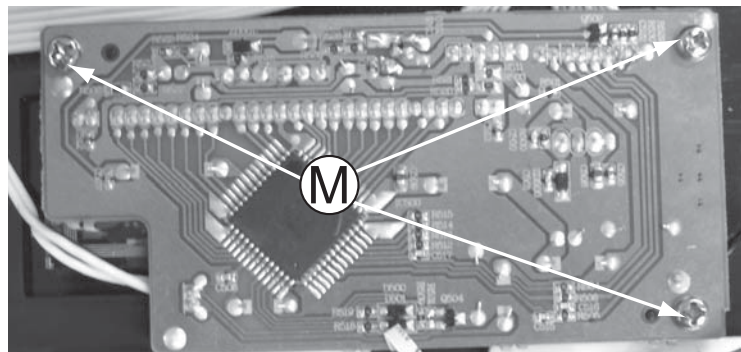

Figure 14
- 1) Loosen 3 screws "M" on the VFD PCB to remove it as shown in figure 14.